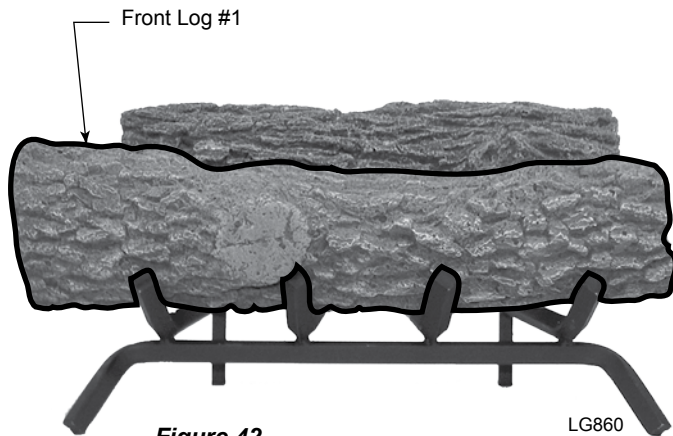

Figure 42 - Place Front Log
2. Place Front Log #1 on front of grate. *Figure 42*